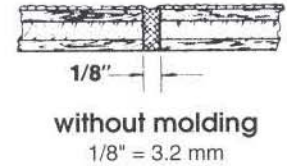

Figure 12
- Laminated panels may be installed without a division bar molding, but maintain a 1/8" space between panels. This space allows for normal expansion and should be filled with silicone sealant to completely seal the installation from moisture (Figure 12).